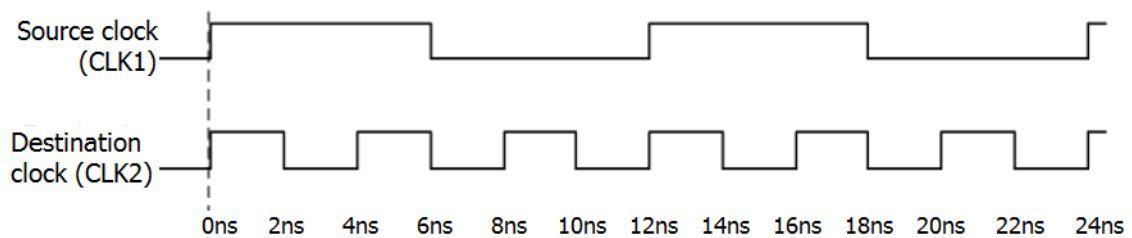

Figure 6-16: Multicycles Between SLOW-to-FAST Clocks
For example, assume that: (1) CLK2 is three times the frequency of CLK1; and (2) a clock enable signal on the receiving registers allows a Multicycle constraint to be set between both clocks. See Figure 6-16, Multicycles Between SLOW-to-FAST Clocks.